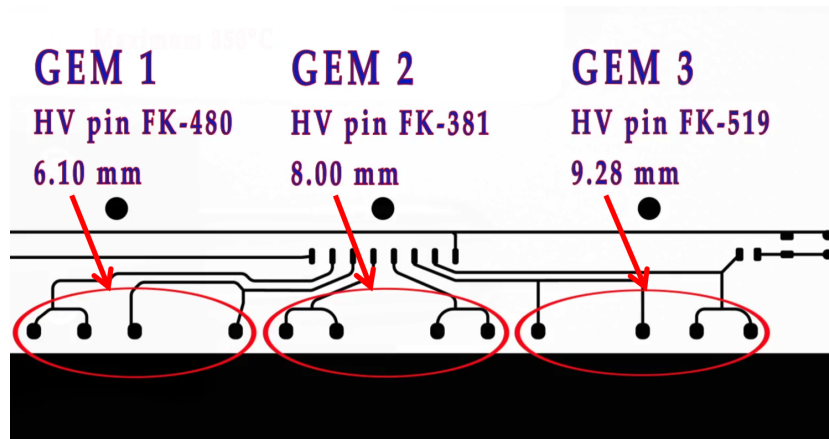

Figure 18: Positioning of the HV pins on the drift board.
Step 2: The schematics in Fig. 18 shows the location of the HV pins: the 6.1 mm pins FK-480 should go in the GEM 1 pads, the 8 mm FK-381 should go on the GEM 2 pads and the 9.28 mm FK-519 should go on the GEM 3 pads.